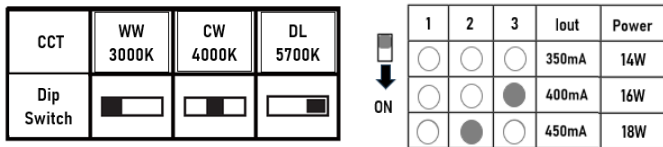

Fig. 4
- Select the required colour temperature via the three-position switch on the gear tray and required wattage via the three-position dip switches on the side of the driver (see Fig. 4)